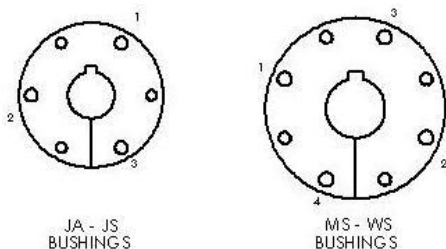

Figure 1
5. Using a torque wrench and recommended torque (see Table 1) tighten cap screws alternately and evenly in one bushing only. Use the numbered sequence on the bushing flange cap screw heads in Figure 1, starting with 1 first, 2 second, and so on, with all cap screws being used until the specified torque no longer turns the cap screws. **DO NOT OVERTIGHTEN.** Over-tightening may damage the hub threads. Check to be certain the surfaces on both sides of the split are even.